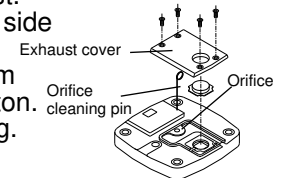

Fig6. Orifice cleaning
### (D) Orifice cleaning method when orifice clogs, it requires cleaning. <Refer to Fig.6>
- (1) Close valve at the drain inlet side and let the air out of auto drain completely.
- (2) Remove exhaust cover. Take orifice cleaning pin placed on the reverse side of exhaust cover.
- (3) Orifice is located in the center of body. Insert pin into the hole of orifice and remove dust.
- (4) Open valve at the drain inlet side slowly to supply pressure.
- (5) Check if air is exhausted from orifice when pushing flush button. (if the air still go on discharging, repeat from step(3))
- (6) Mount exhaust cover.